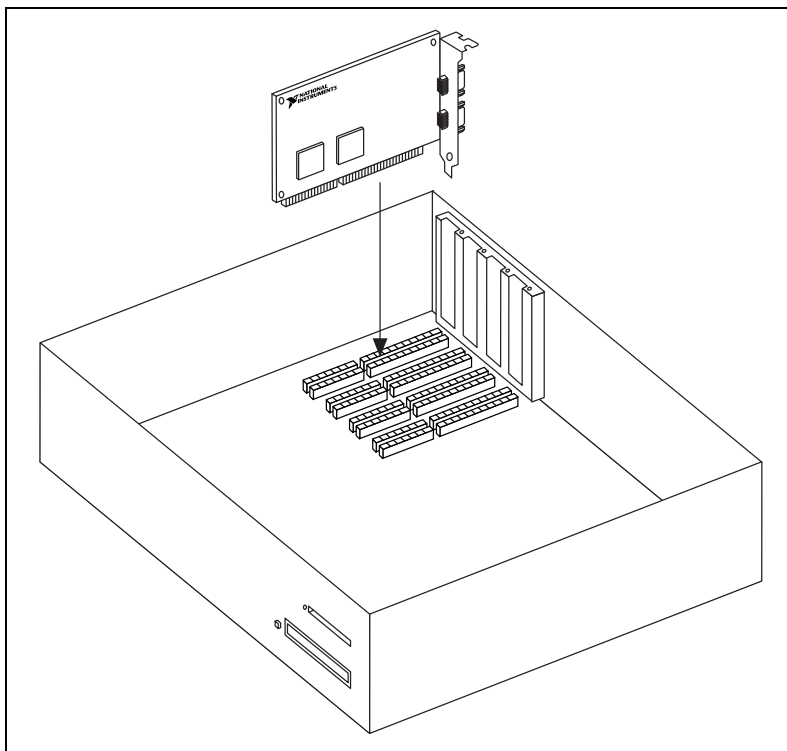

Figure 2-3. AT Serial Board Installation
6. Insert the AT serial board into the slot with the serial connectors toward the opening on the back panel. Make sure that you insert the board all the way into the slot. The board might seem to click firmly into place, even though it is only part of the way in. Figure 2-3 shows how to install the AT serial board into an expansion slot.